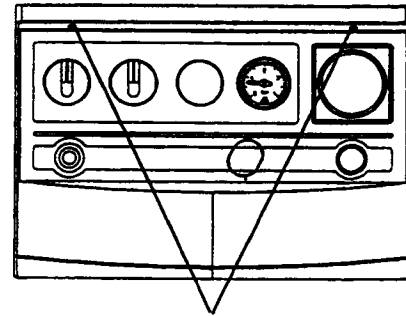

Fig.10
- 5.3.1 Remove the 2 screws securing the lower control panel to the upper outer casing.(Fig.10)